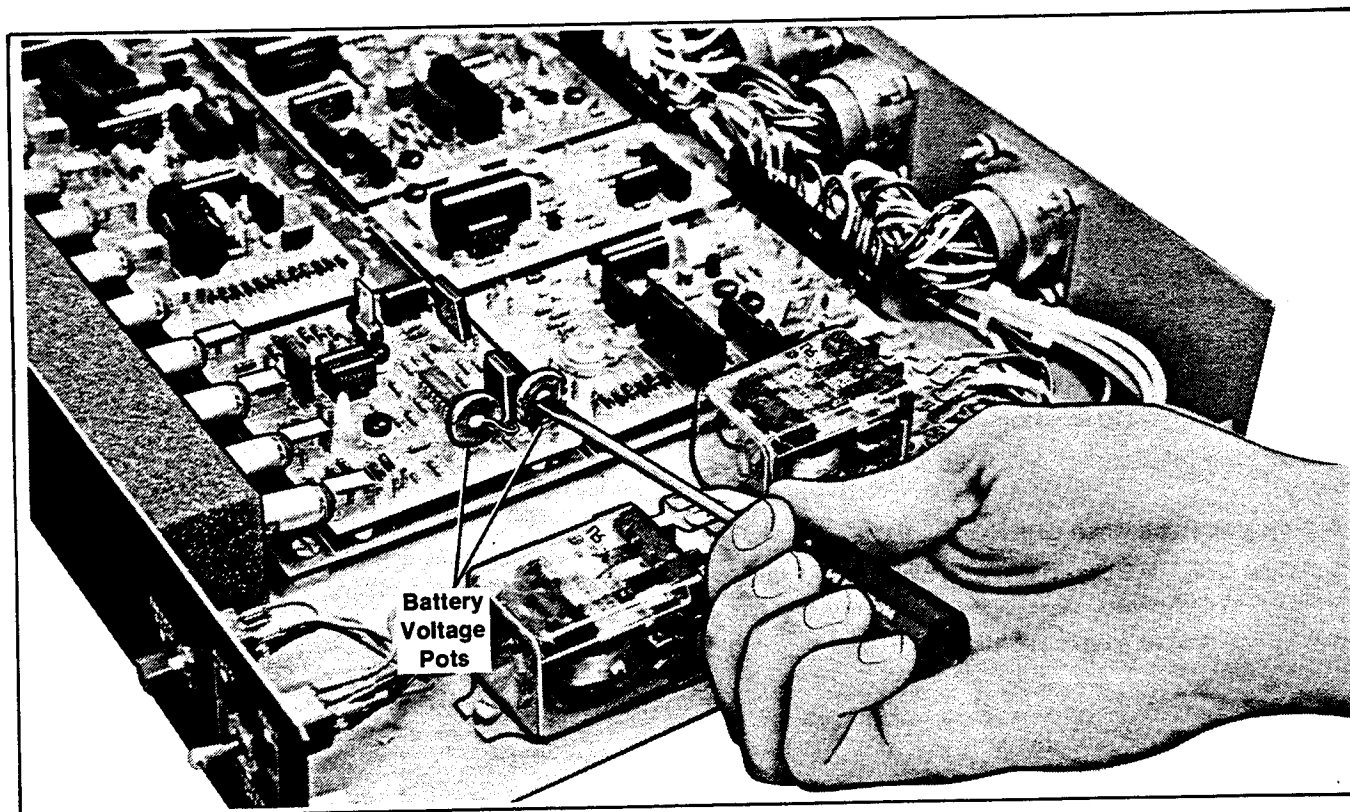

Figure 3-8. Battery Volt Indicator Adjustment
6. Slowly turn HIGH VOLT ADJ. pot clockwise until BAT. HIGH VOLTS goes out, and SYSTEM READY lights. See Figure 3-8.